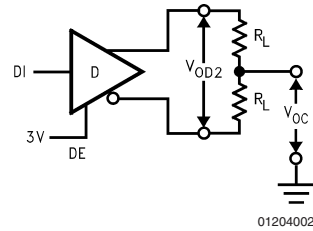

FIGURE 1. Driver  $V_{OD2}$  and  $V_{OC}$
| V OD2                    | Differential Output Voltage(Termination Load)                    | R L = 50Ω                                                                                                           |           | (422)                  | Figure 1 | 2.0  | 2.8    |      | V     |
| V OC                     | Driver Common ModeOutput Voltage                                 | R L = 27Ω                                                                                                           |           | (485)                  | Figure 1 | 0    |        | 3.0  | V     |